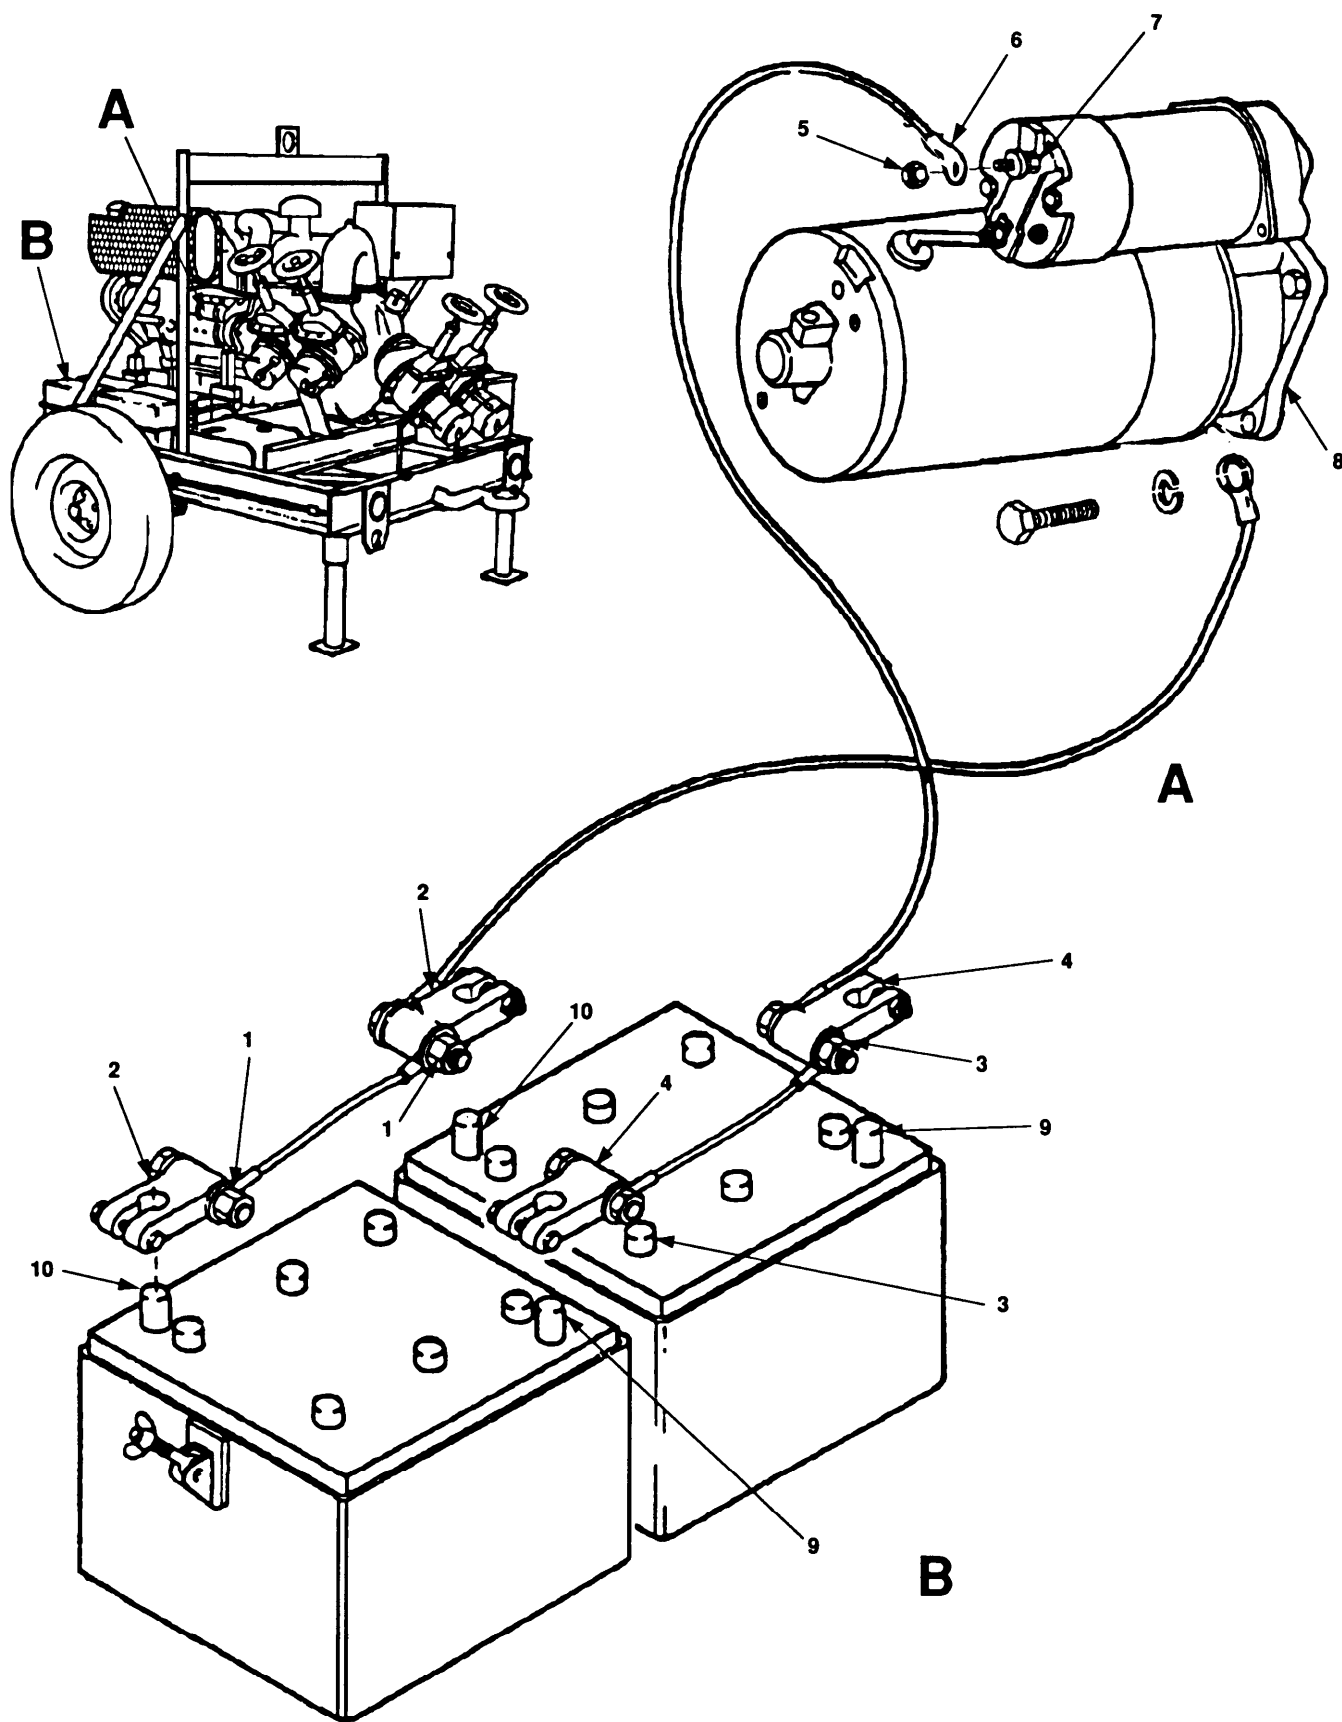

Figure 4-36. Battery Test.
- a. Loosen nuts (figure 4-36, 1) and remove negative connectors (2) from batteries.
- b. Loosen nuts (3) and remove positive connectors (4) from batteries.
- (1) Remove nut (5) and terminal (6) from positive solenoid terminal (7).
- (2) Check continuity from positive connector (4) to terminal (6).
- (3) Check continuity from negative terminal connector (2) to starter ground terminal (8).
- (4) If either cable does not read continuity, replace cable (paragraph 4.12.3).
- (5) Install nut (5) to positive solenoid terminal (7).
- e. Install positive connectors (4) on positive terminals (9).
- f. Install negative connectors (2) on negative terminals (10).